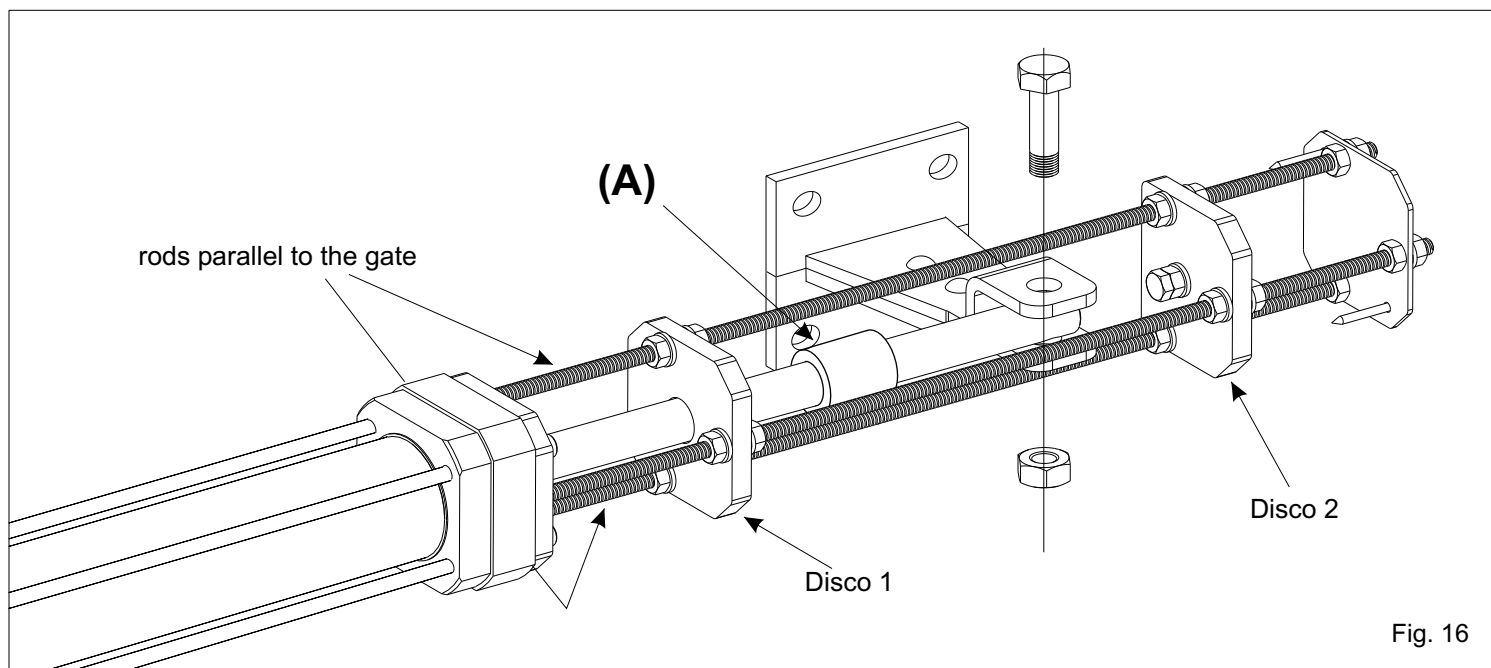

Fig. 16
- Put the positive stops into the front flange of the unit with the two tie rods (of the three present on the stops) which are parallel to the gate (Fig.16)
- Only Mini Tank : Put the provided bush (A) into the shaft